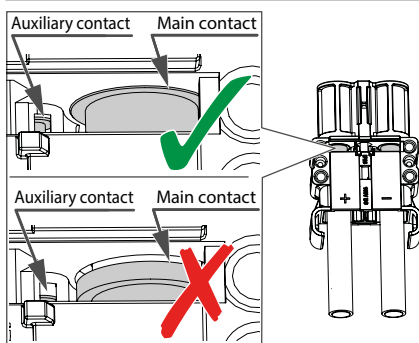

Fig. 48:
1. Ensure that the main contacts and the auxiliary contacts (where used) are correctly positioned in the guides in the housing (Fig. 48).